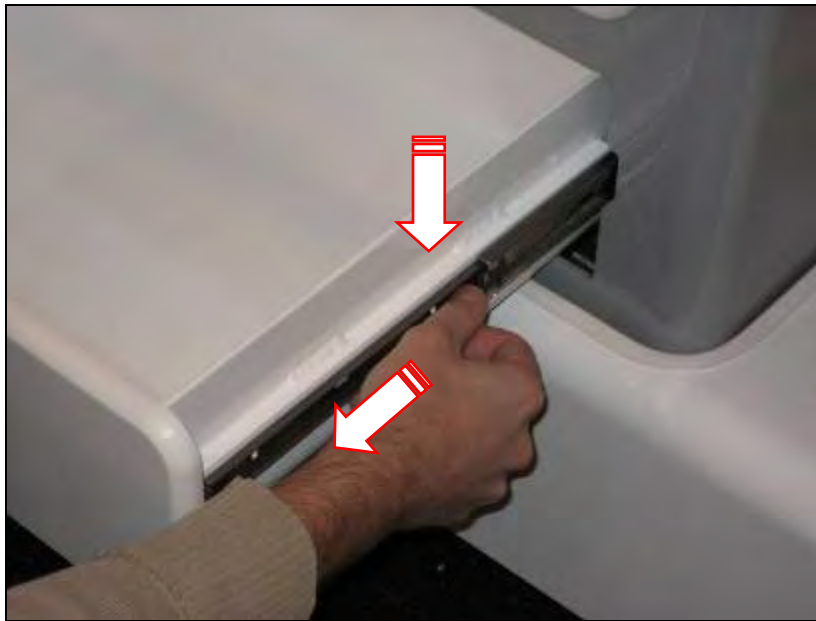

Figure 16
10. Remove the drawers by sliding them completely open pressing the two plastic tabs on either side, upward on the left and downward on the right, and pulling the drawers out of the rear support assembly (Figure 16). Place them away from the work area. The drawer sliders have a light oil coating which may get on hands, and if so, should be washed off to avoid fingerprints on the system.